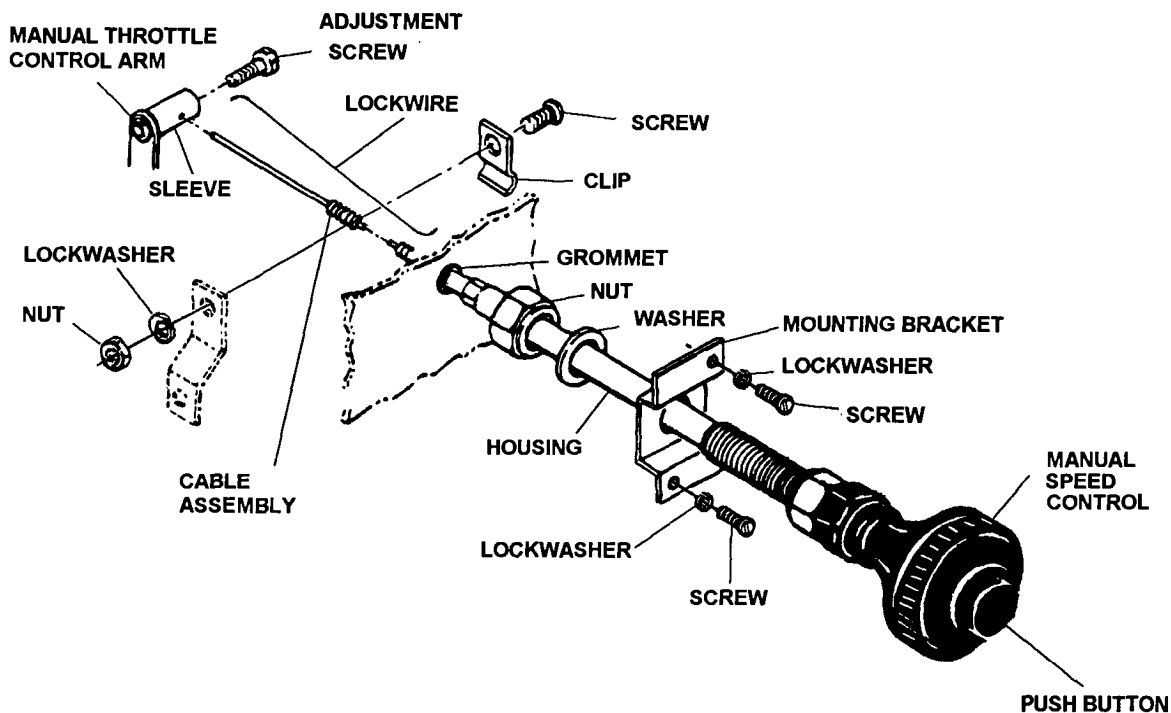

Figure 4-42. Manual Speed Control, Exploded View
- (1) Inspect manual speed control knob (Figure 4-42) for cracks, beaks, and other damage and condition of boot.
- (2) Inspect Control cable assembly for corrosion, pinched, frayed, or otherwise damaged cable, pinched or damaged housing, insecure mounting, and stripped or otherwise damaged adjusting threads.
- (1) On precise models of the generator set, the manual speed control must be connected as follows.
- (b) Insert manual speed control cable through sleeve of fuel injection pump manual throttle control arm (Figure 4-42).
- (2) Check manual speed control for unrestricted movement.
- (3) Refer to paragraph 2-6 and start the generator set.
- (4) Use the manual speed control to set generator output frequency.
- (5) Rotate the control knob 90 degrees. Frequency change shall not exceed 1 percent for a 90 degree rotation (0.6 Hz for 50/60 Hz generator sets and 4 Hz for 400 Hz generator sets).
- (6) Replace manual speed control if it fails any of the above tests or inspections.
(1) Removal.
- (a) Loosen adjustment screw (Figure 4-42) and remove cable from sleeve.
(2) Cleaning.
(3) Installation.
- (a) If removed, install mounting bracket, (Figure 4-42) lockwashers, and screws.